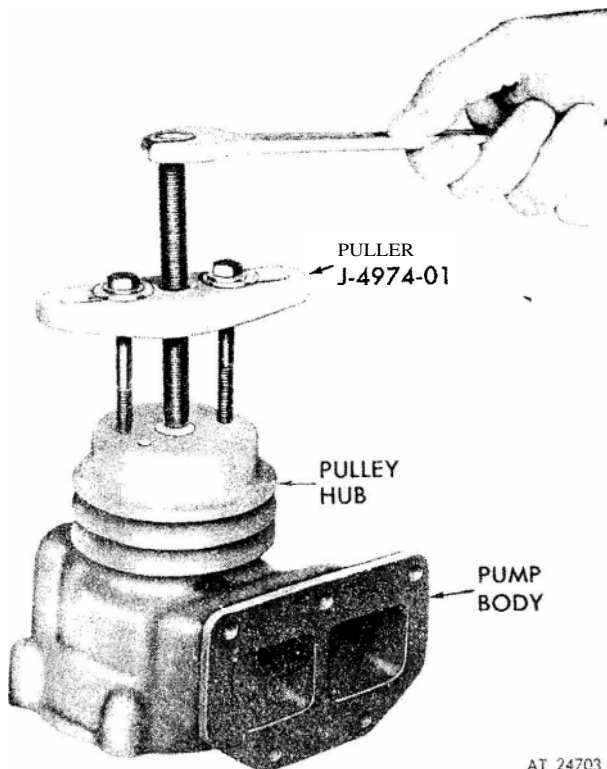

Figure 3. Removing pulley.
1. Note the position of the pulley on the shaft so that the pulley can be reinstalled in the same position when the pump is assembled. Remove water pump pulley as shown in figure 3.